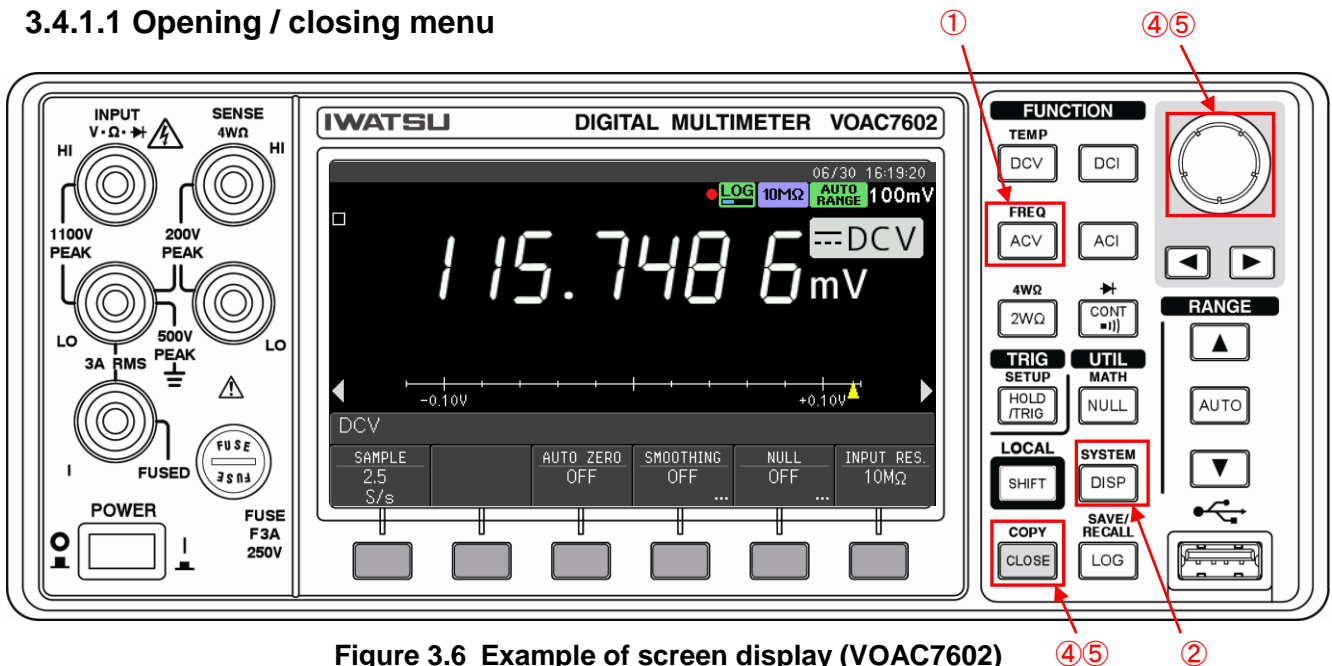

Figure 3.6 Example of screen display (VOAC7602)
The following describes the operation procedure of the menu using the screen example of DCV measurement in Figure 3.6.
④ Press [CLOSE] key in the red frame on Figure 3.6 in DISPLAY/SETUP menu below.
Or, press the Rotary knob in Figure 3.6.
⑤ Next, press [CLOSE] key in the red frame on Figure 3.6 of the former page in DISPLAY menu below.